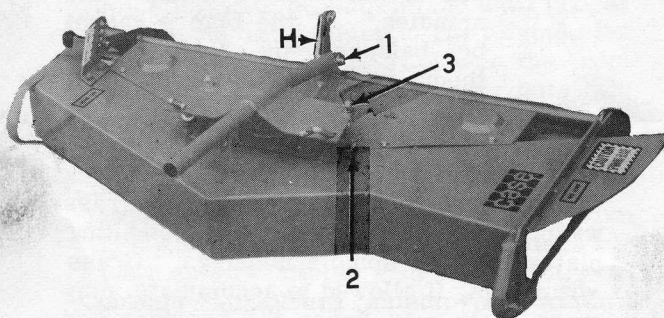
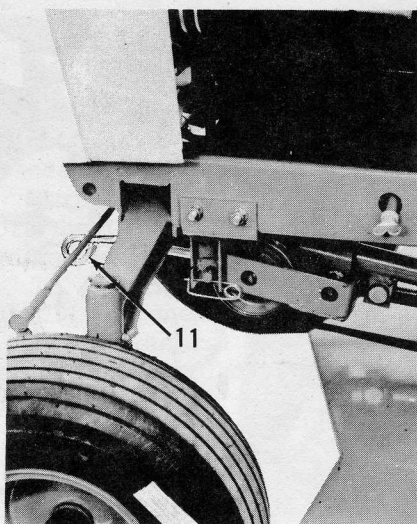

Figure 11. Assembling Lift Frame to the Mower Deck
Figure 14. Tensioning Drive Belt
4. Loosely attach the right and left hand front hanger brackets, Figure 11, to the forward set of holes on each side of the tractor frame channels using the four preassembled hex head bolts and lockwashers. The brackets must be attached with the pedestals toward the front also as shown in Figure 14.
11. Check to make certain the drive belt is not twisted and is properly positioned in all pulleys. Then turn the adjusting crank counterclockwise until the left hand idler pulley mounting bolt lines up with the inspection hole in the idler bracket. See Figure 14, also page 6.